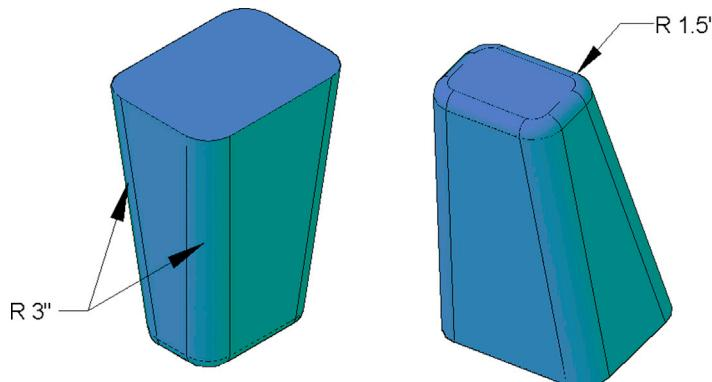

FIGURE 24.20 Wastebasket, Step 3.
Step 3. Fillet the side edges with a $3''$ radius, and the bottom with a $1.5''$ radius, as seen in Fig. 24.20.